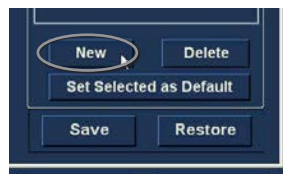

Figure 4.9 - Users Screen, New User
1. In the Users screen select "New" as shown in Figure 4.9.